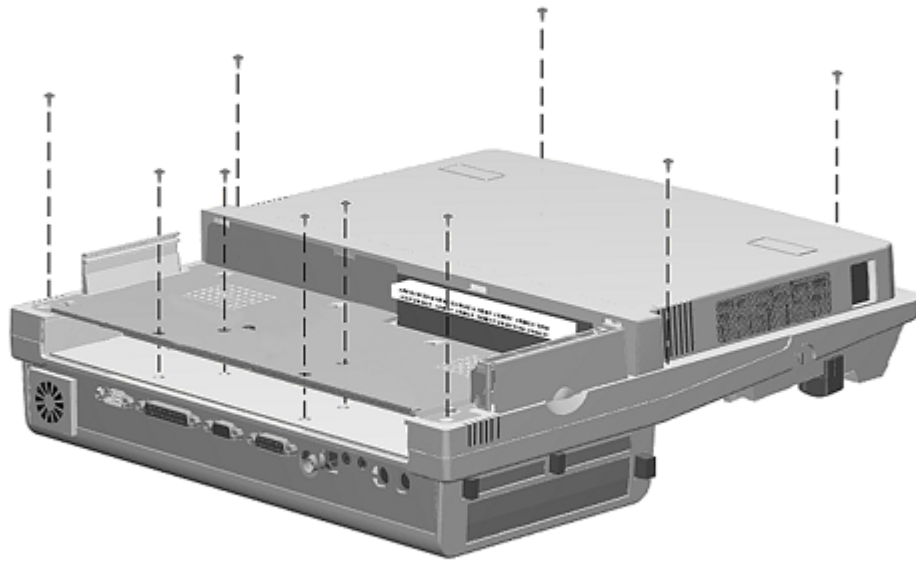

Figure 7-11. Removing the Bottom Cover Screws
4. Remove the one screw in the center of the shield on the bottom cover, remove the shield by sliding it forward and lifting it off the retaining clips, and then remove the remaining ten screws that secure the bottom cover to the expansion base (Figure 7-11).